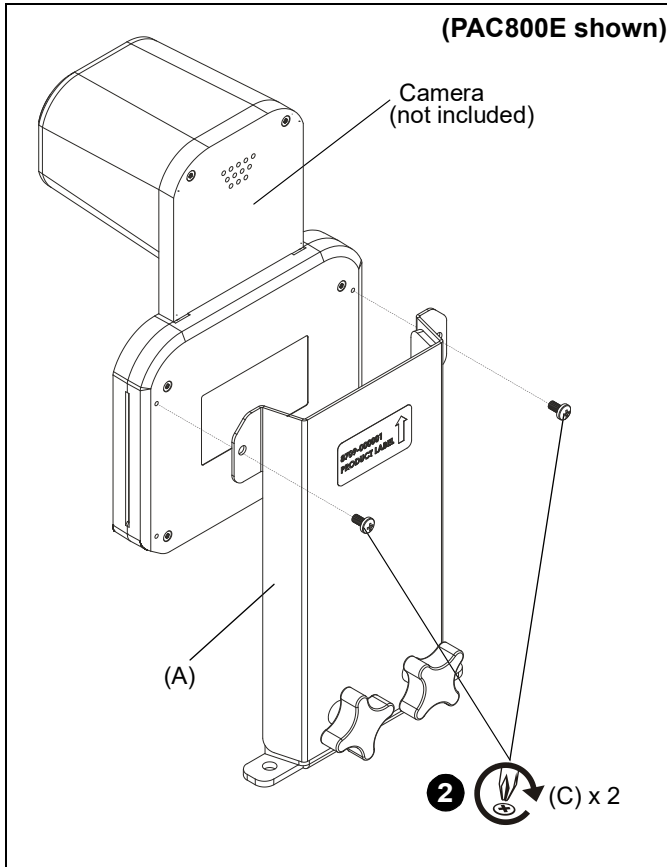

Figure 6
1. Use two 1/4-20 x 1/2" Phillips pan machine screws (C) to secure camera to main bracket (A). (See Figure 6)